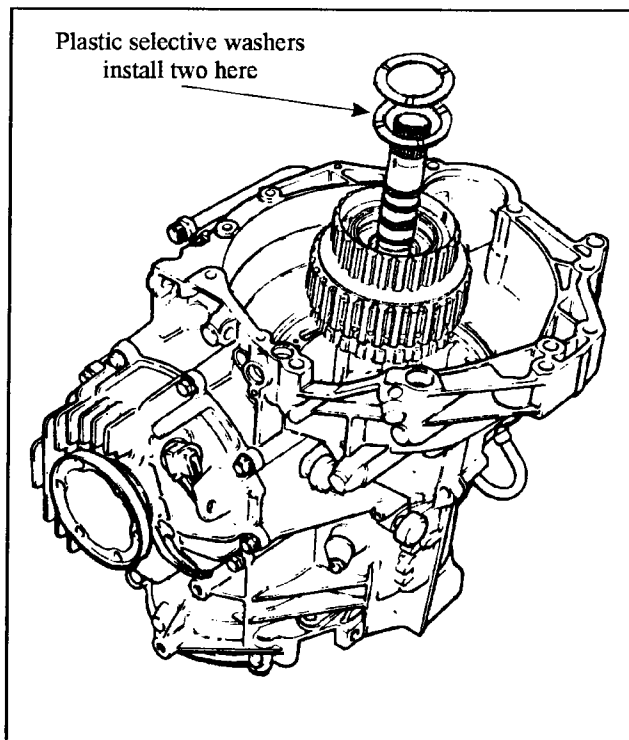

Figure 152
26. Install the K1 drum into the case, and twist until the clutches are splined onto the large drive shaft (See Figure 152).
27. Install the two plastic selective washers on the back side of the K1 drum (See Figure 152).